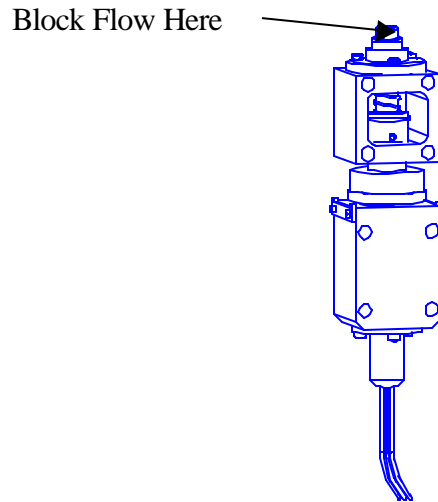

Figure 6 Location to plug during the Fixing a Leak procedure
3. Remove pump assembly – to remove the pump assembly see section 3.3.1.4 of the E-BAM manual. Do not remove the power from the PCB to the pump and don't remove the Tygon tubing from the pump ports. The pump will turn on if the E-BAM is in the FIELD CALIBRATION / PUMP TEST screen. Plug the top of the Nozzle assembly see Figure 6.